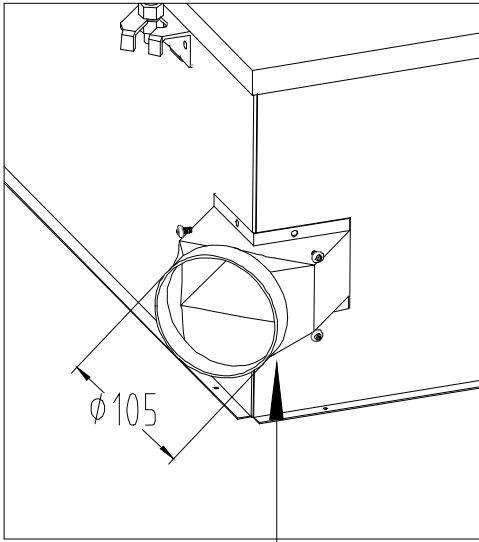

Figure B.10.4
4. Install the flange to casing and attach with 2 screws. (Figure B.10.4 and B.10.5)